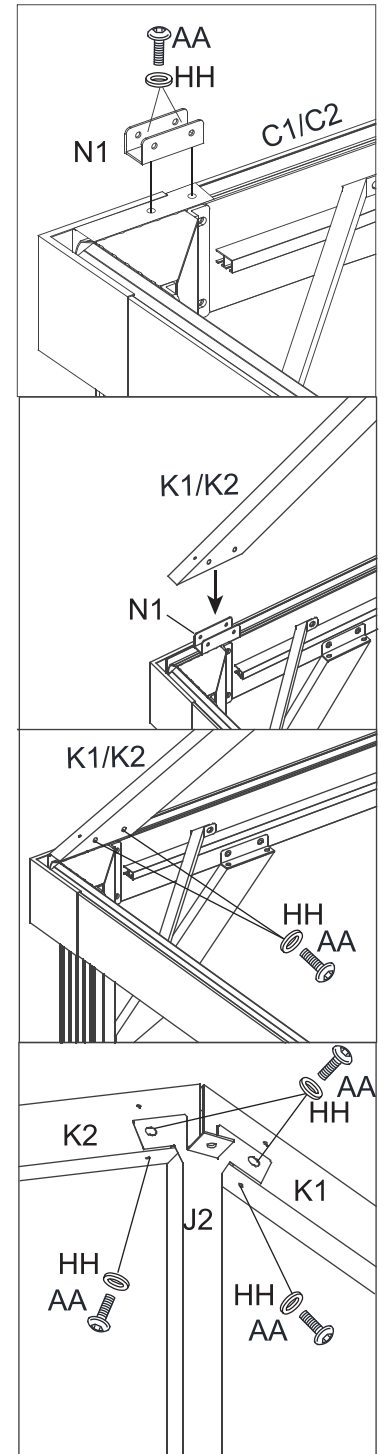

Figure 9.2
9.2 Connect the Connector (N1) and the Short Lintels (C1/C2) with Bolts (AA) and Washers (HH), thenconnect the Bilateral Cant Beam (K1/K2) with the Connector (N1) and Vertical Brace (J2) , fix them withBolts(AA)and Washers(HH),See Figure 9.2.